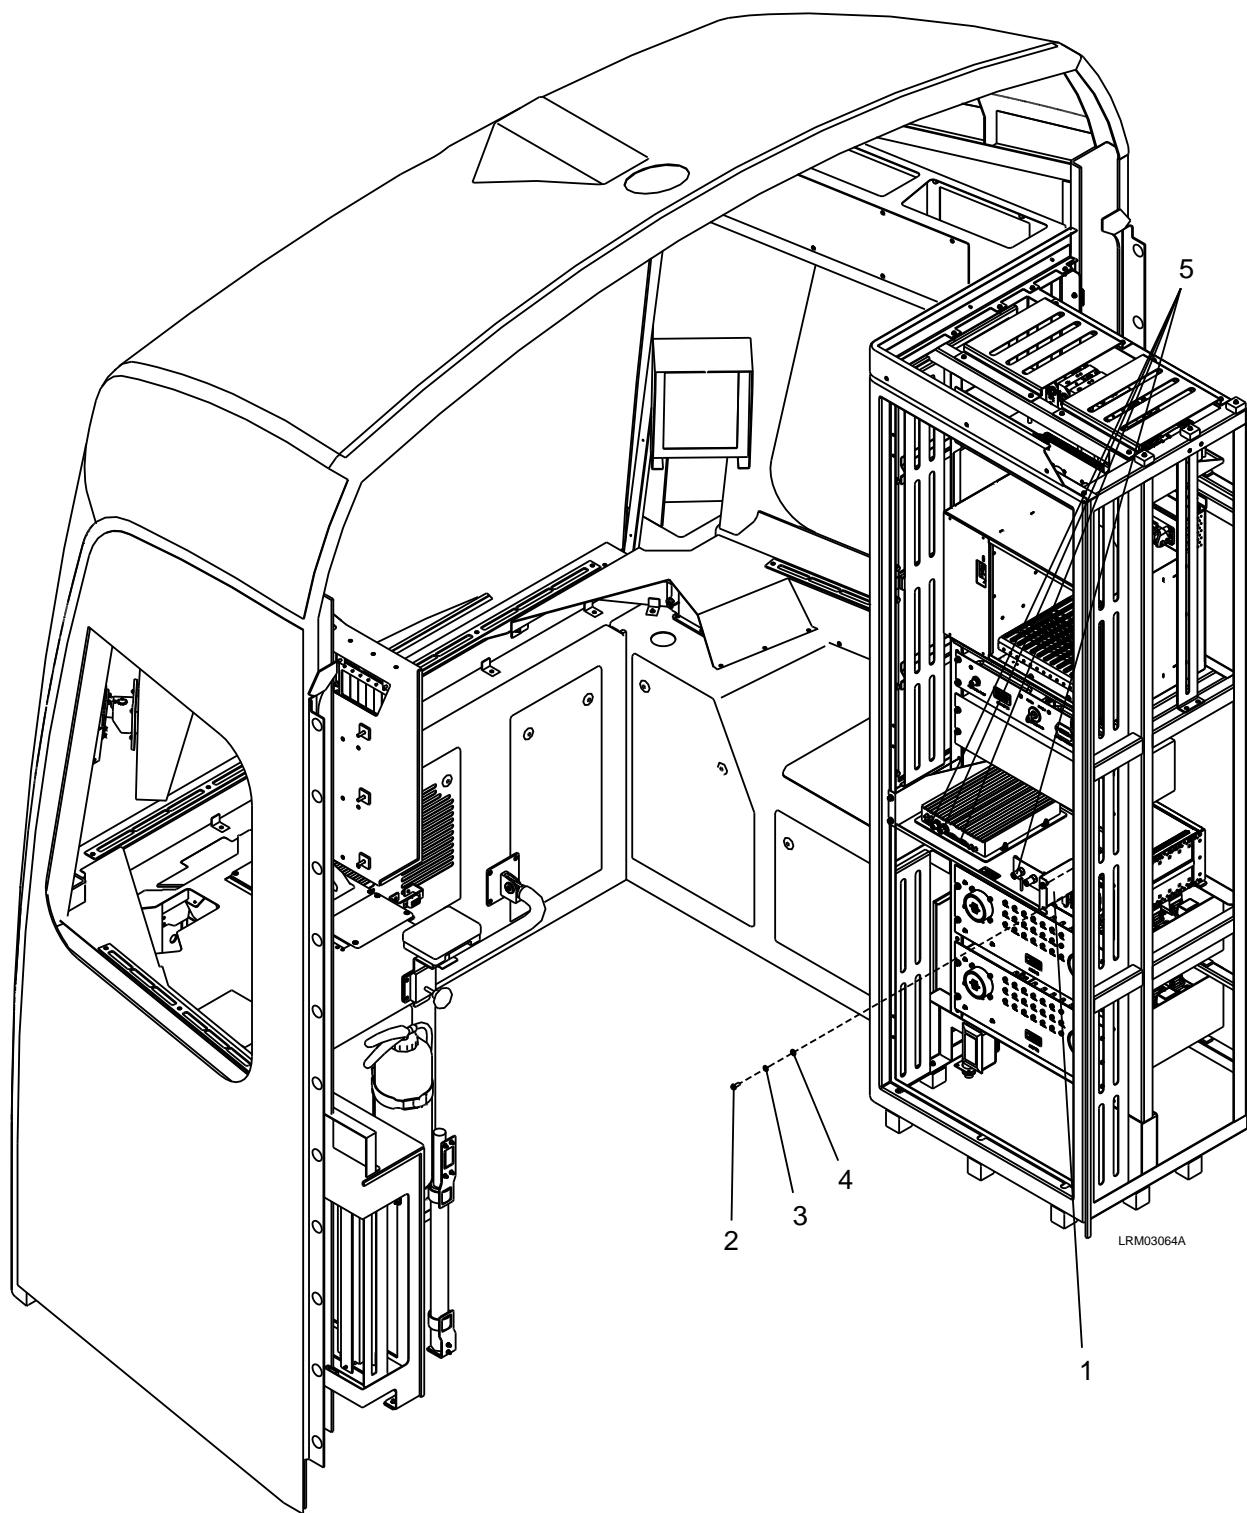

Figure 7-45: Monitoring and Diagnostic System (MDS) Control Unit
2. Disconnect the electrical connectors (5) to the MDS Control Unit (1). See Figure 7-45.
3. Remove the four M6 x 16 screws (2), M6 lock washers (3), and M6 plain washers (4).
4. Carefully remove the MDS Control Unit (1).